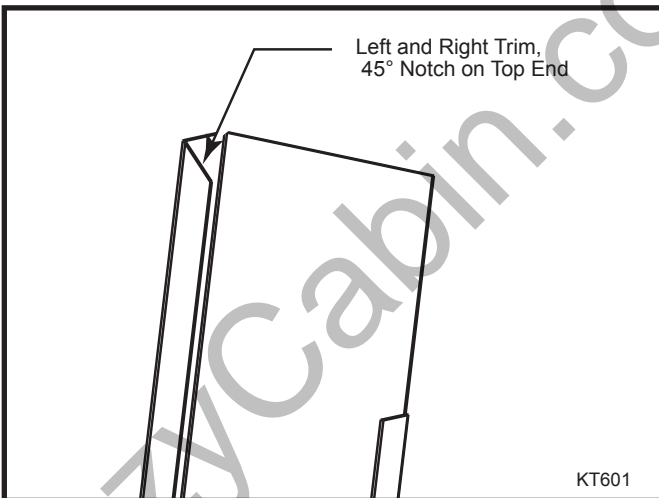

Fig. 53 The right and left trim pieces have a 45° notch on the back corner of the top end when properly installed.
2. The right and left trim piece have a 45° notch on the back corner of the top end. (Fig. 53) Place the right trim against the right side of the window frame, making sure the bottom is overlapping the bottom trim piece. The right side of the trim should butt up against the right side nailing flange of the fireplace.